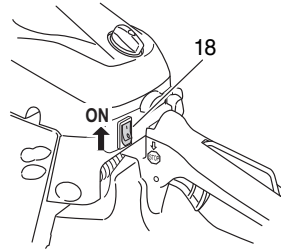

Fig. 13
1. Set ignition switch (18) to ON position. (Fig. 13)